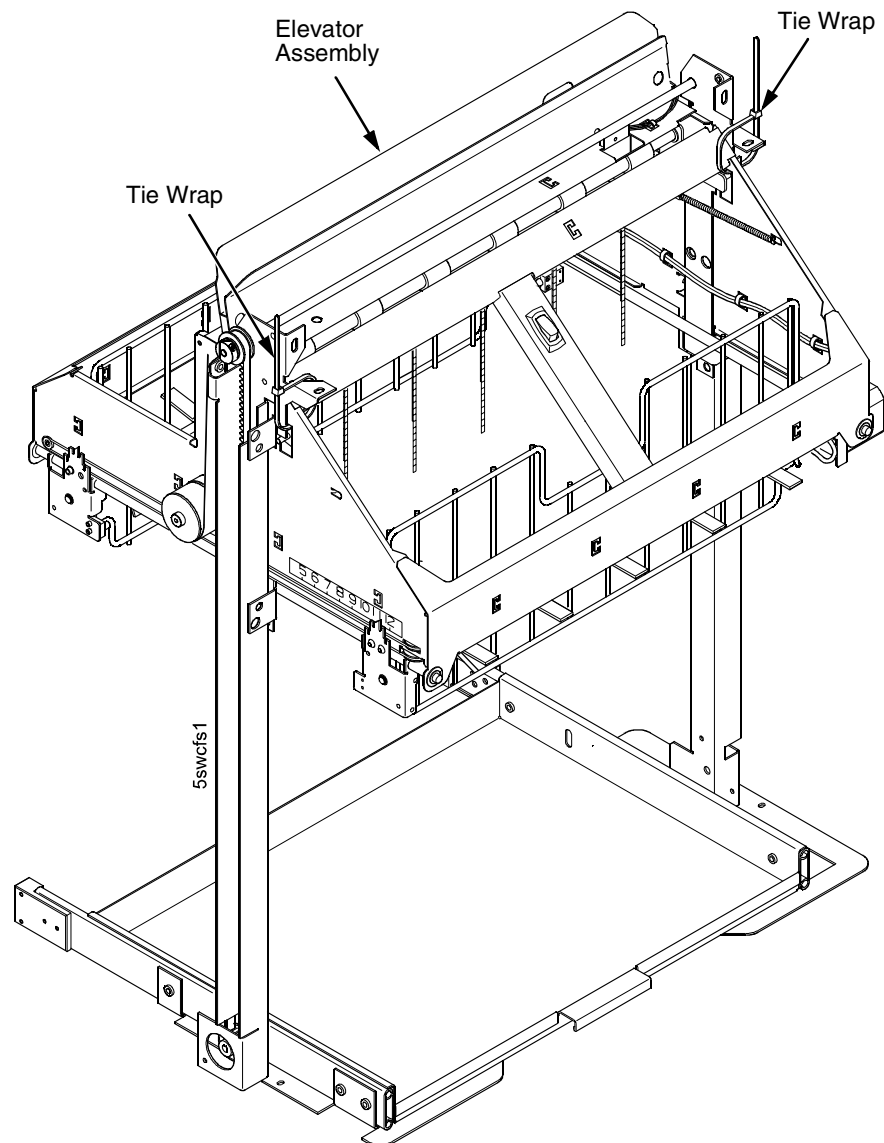

Figure 93. Securing the Elevator Assembly
2. Raise the elevator assembly to within about 1/4 inch of its highest position and secure it to the vertical rails using tie wraps or string. Do not over-tighten the tie wraps or string; tighten them just enough to hold the elevator up. (Figure 93.)
2. Raise the elevator assembly to its highest position and secure it to the vertical rails using tie wraps or string. Do not over-tighten the tie wraps or string; tighten them just enough to hold the elevator up. (Figure 93, page 416.)